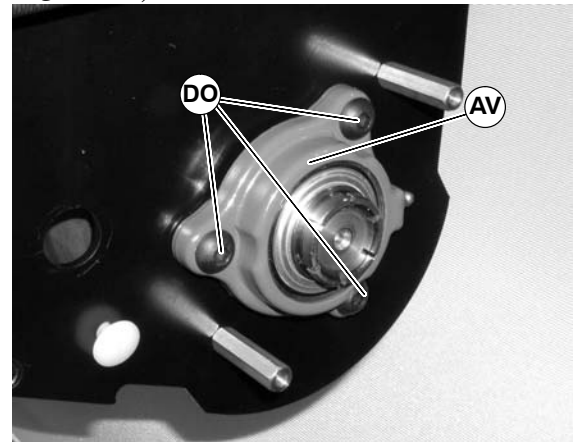

Figure 111
4. Remove the three (3) mounting screws (DO of Figure 111).
5. Remove and replace housing assembly (AV of Figure 111).
6. Tighten three (3) mounting screws (DO of Figure 111) to 200 in-lbs (22.5 N-m).